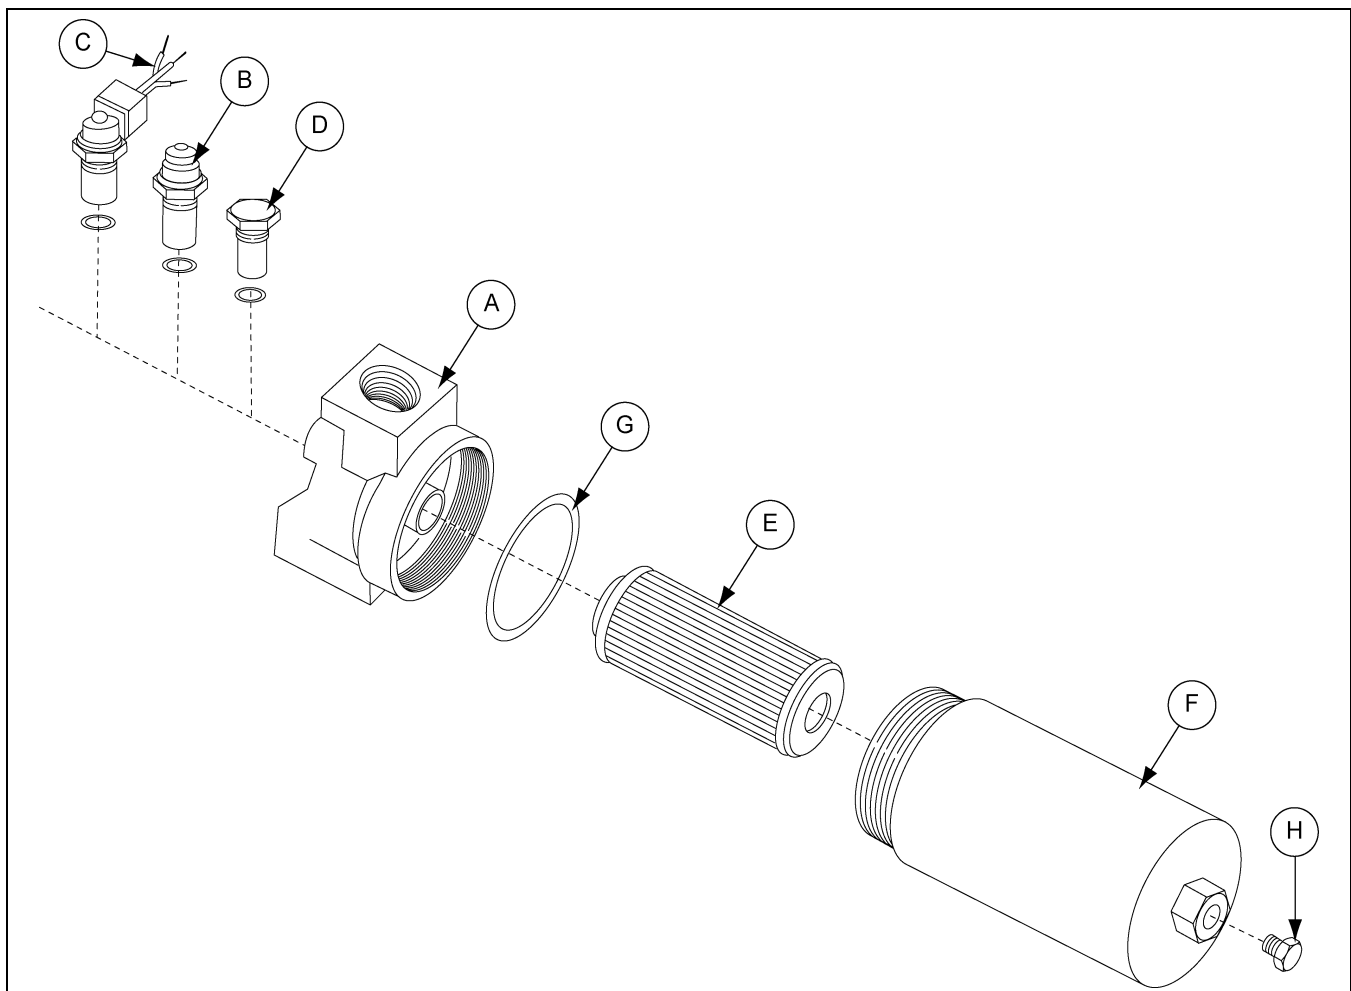

Figure 4A Return Line Filter
5. Check, clean or replace the hydraulic return line filter. *(See Figure 4A.)*
- c. Rotate bowl (F) counterclockwise and remove.
- d. Remove element (E) from housing. Discard all disposable elements. These elements are not cleanable.
- e. Place new, clean element (E) in housing, centering it on location in the head (A).
- f. Inspect bowl (G) seal and replace if necessary.
- g. Replace bowl (F). Rotate clockwise and hand tighten.